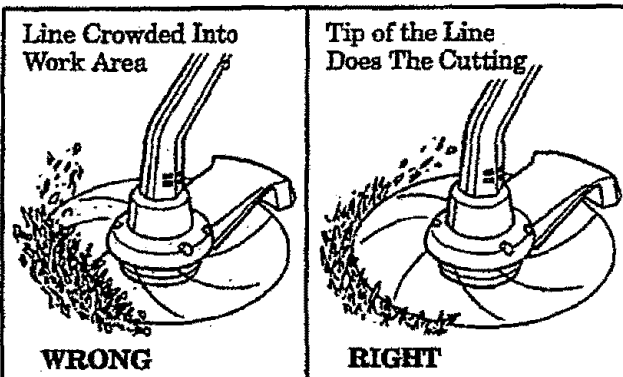

Figure 6
- Only the tip of the line does the cutting. You will achieve the best performance and minimum line wear by not crowding the line into the cutting area. The right and wrong ways are shown in Figure 6.